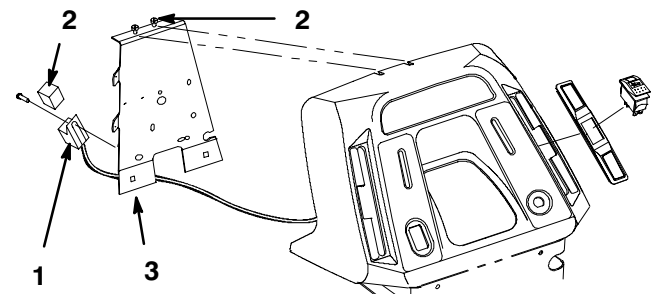

Figure 10
Note: Install relay socket at an angle as shown in figure 10.
3. Reinstall the control panel to tractor (Fig. 10).